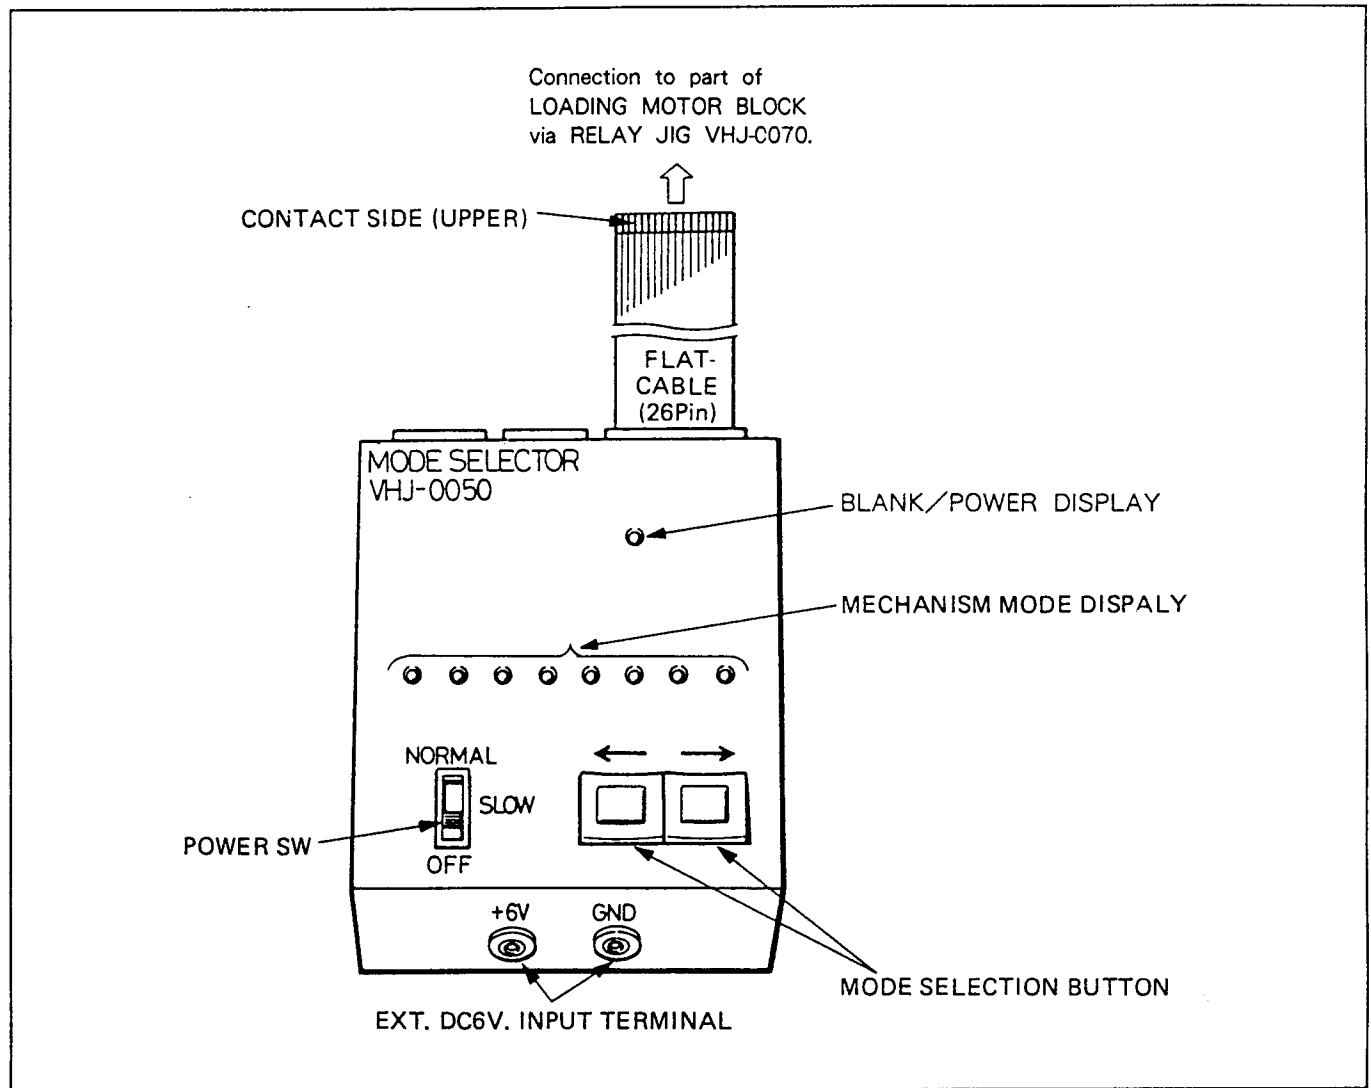

Fig. 4-2-1
4.2-1. PART NAMES (See Fig. 4-2-1)